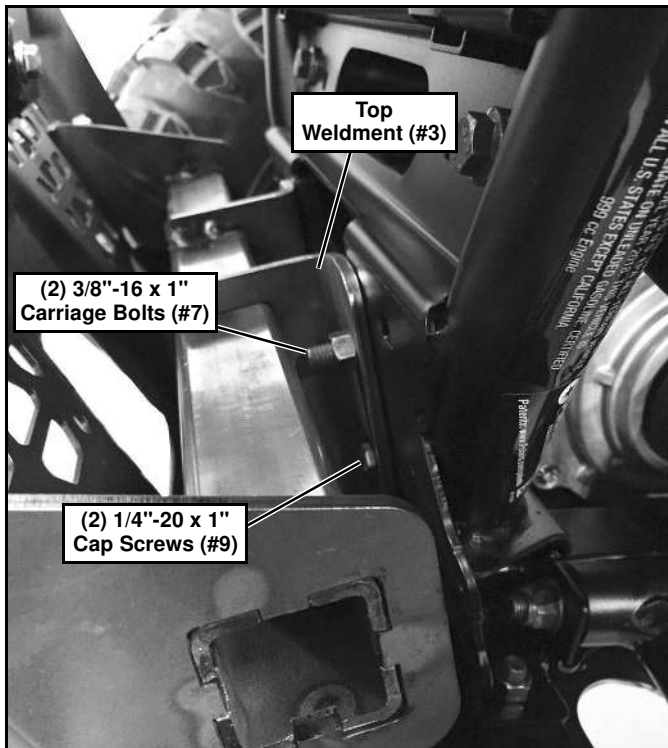

Figure 2
2. Behind the Brush Guard are four square holes in the frame. The bottom two square holes align with the top holes in the Top Weldment (#3) (See Figure 2).
3. Insert (2) 3/8\"-16 x 1\" Carriage Bolts (#7) into the square holes on the vehicle frame and through the Top Weldment (#3). Secure with (2) 3/8\"-16 Locknuts (#8). Insert (2) 1/4\"-20 x 1\" Cap Screws (#9) into the lower rear holes in the Top Weldment (#3) and through the frame. Secure with (2) 1/4\"-20 Locknuts (#10) (See Figure 2).